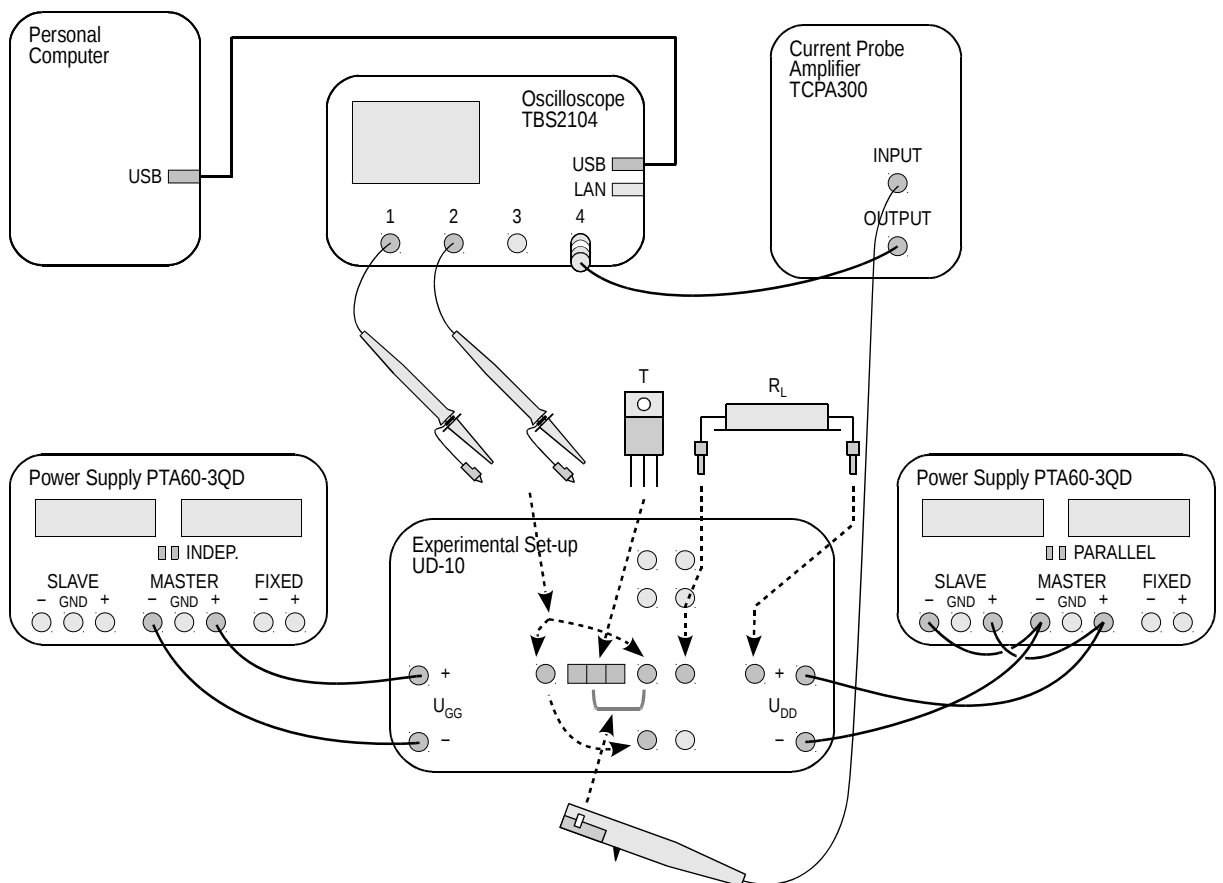

Fig. 4. Block diagram of the measurement set-up for recording time waveforms
The block diagram of the measurement set-up is presented in Fig. 4. It should be assembled and configured in the way described below and following the order of actions specified. Connections existing at this moment and resulting from the previous section should not be removed; a procedure for their appropriate modification will be given further in this manual.
- (b) between the sockets marked in Fig. 4, connect a power resistor (50-watt, in a metal casing, with short lead wires and banana connectors) with the resistance closest to the value calculated above;